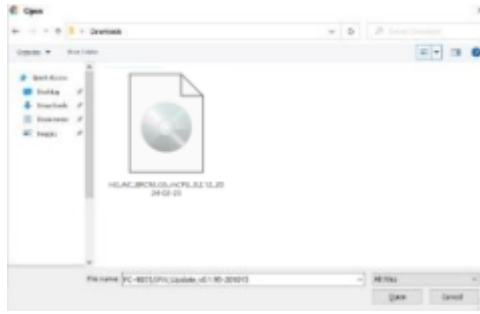

Figure 82. Selecting the Firmware File from the Download Location
B. Select the system management firmware file (.img format) from your device and upload it (refer to Figure 82).